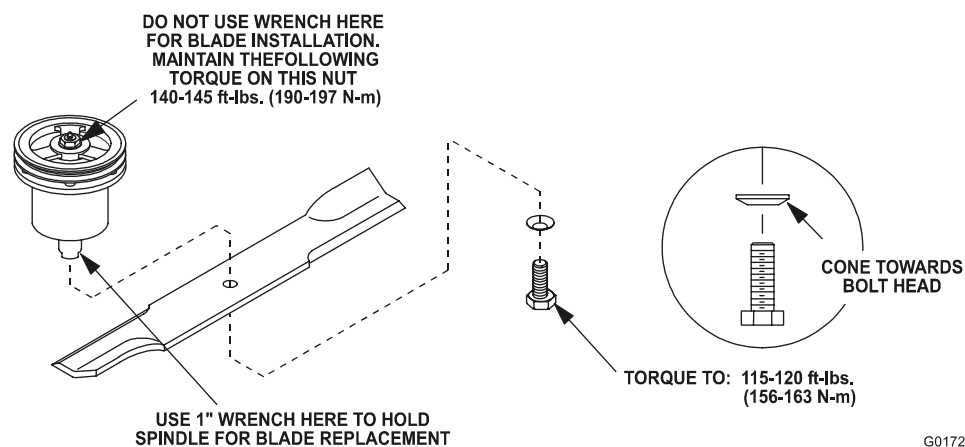

FIGURE 7
- g) Re-install the blades (if they were removed) and torque blade bolts to 115-120 ft. lbs. (156-163 N-m). Be sure the spring disc washer cone is installed toward the bolt head (See Figure 7).